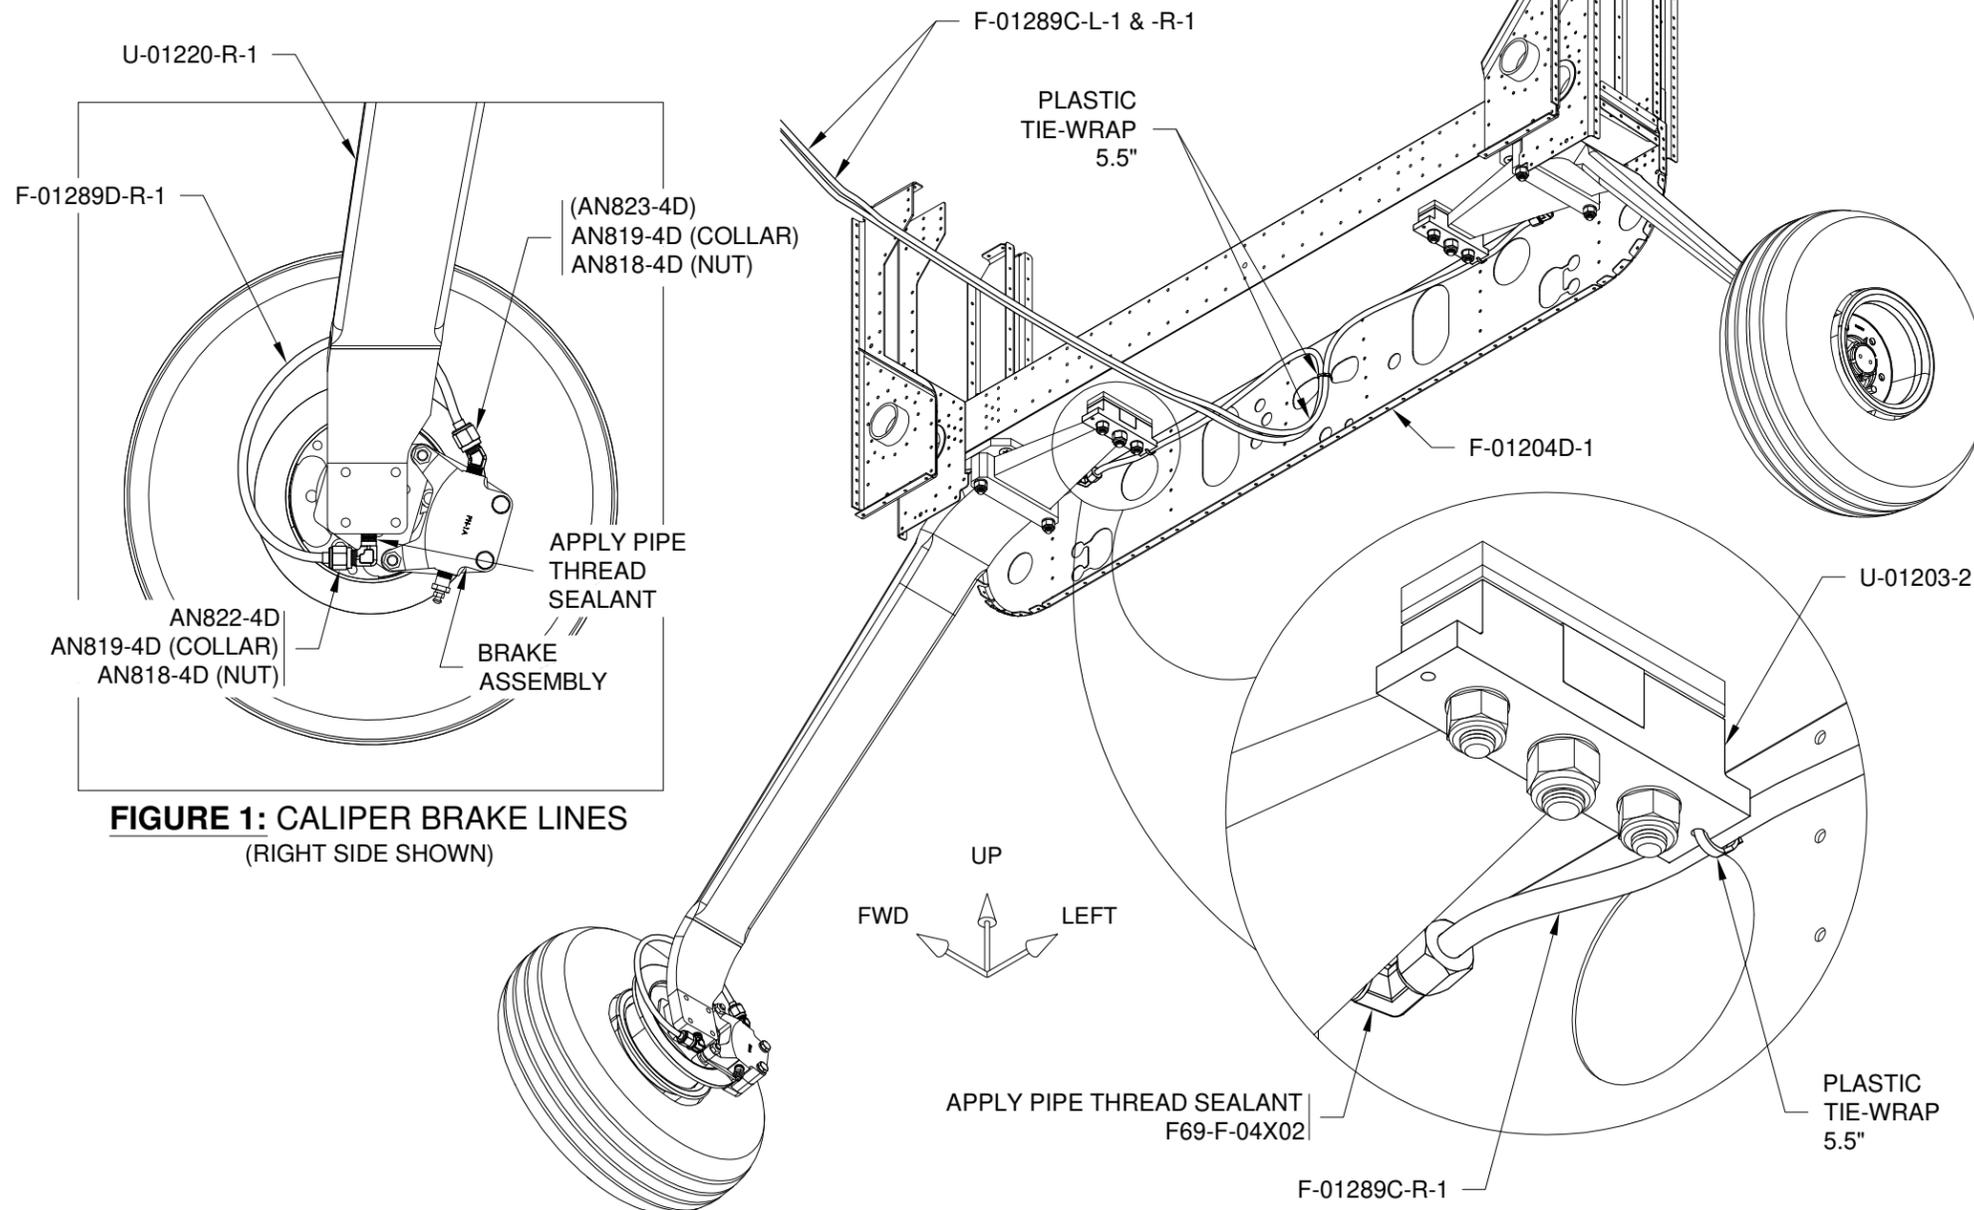

FIGURE 1: CALIPER BRAKE LINES
Step 3: Slip a nut and collar over each end of each F-01289D-L-1 & -R-1. Polish and flare the ends. See Figure 1.
Step 4: Bend, then attach the F-01289D-L-1 & -R-1 to the elbow fittings on the U-01220-L-1 & -R-1 and to the fluid fittings on the brake assemblies as shown in Figure 1. Ensure that the F-01289D-L-1 & -R-1 are clear of the U-01220-L-1 & -R-1.
Step 5: Apply a small amount of pipe thread sealant to the compression fitting (previously attached to the main brake line in Section 28iS/U) shown in the detail view of Figure 1 and install it into the aft port on the U-01220-R-1 Main Landing Gear Leg. Repeat for the left side.